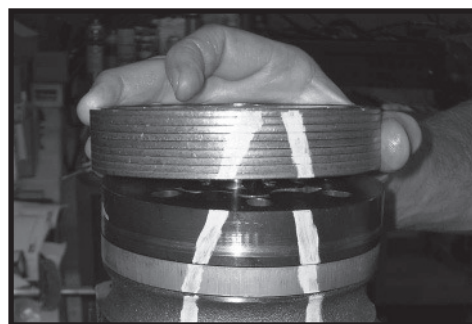

Figure 56
16. Assemble the manifold (7) over the alignment studs and drive link (10) and onto the rotor set. Be sure the correct manifold surface is against the rotor set. SEE FIGURE 56.